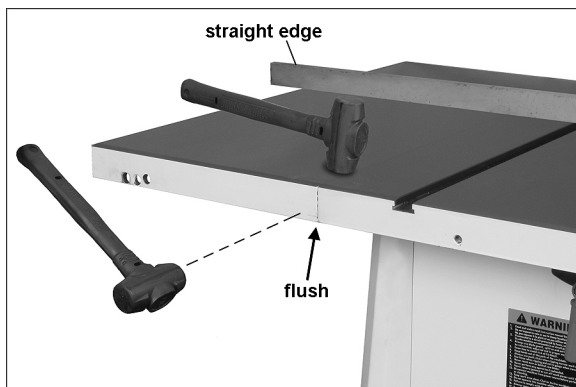

Figure 6-5: leveling extension wings, method
#### Method 1 (Figure 6-5):
3. Lay straight edge across saw table and extension wing, extending it out past edge of wing as shown in Figure 6-5.